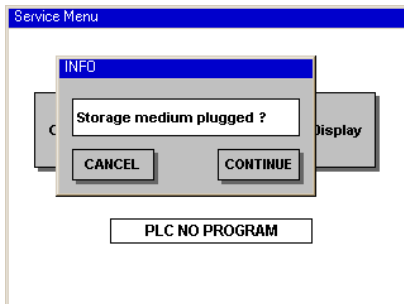

Fig. 36: Service menu (Dialog „Info“)
1. **Storage medium present:** On Dialog "INFO" will prepared that Saving, as well will spent the message (Fig. 36) "Storage medium plugged?". Plug in an pen drive or care for it that is available a SD card.